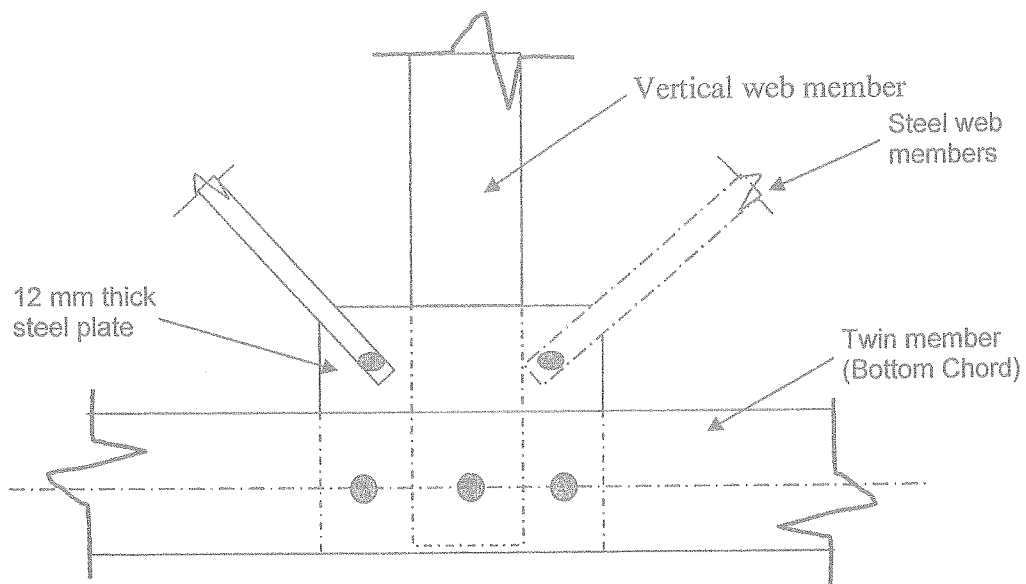

Figure Q2.2 Web member connection details
- d) Vertical web members are connected to the top and bottom chords of the lattice girder by means of single 16 mm (M16) diameter central bolt. Figure Q2.2 shows the connection detail. It is made by inserting a 12 mm thick steel plate. You may assume that adequate end and edge distances are provided.